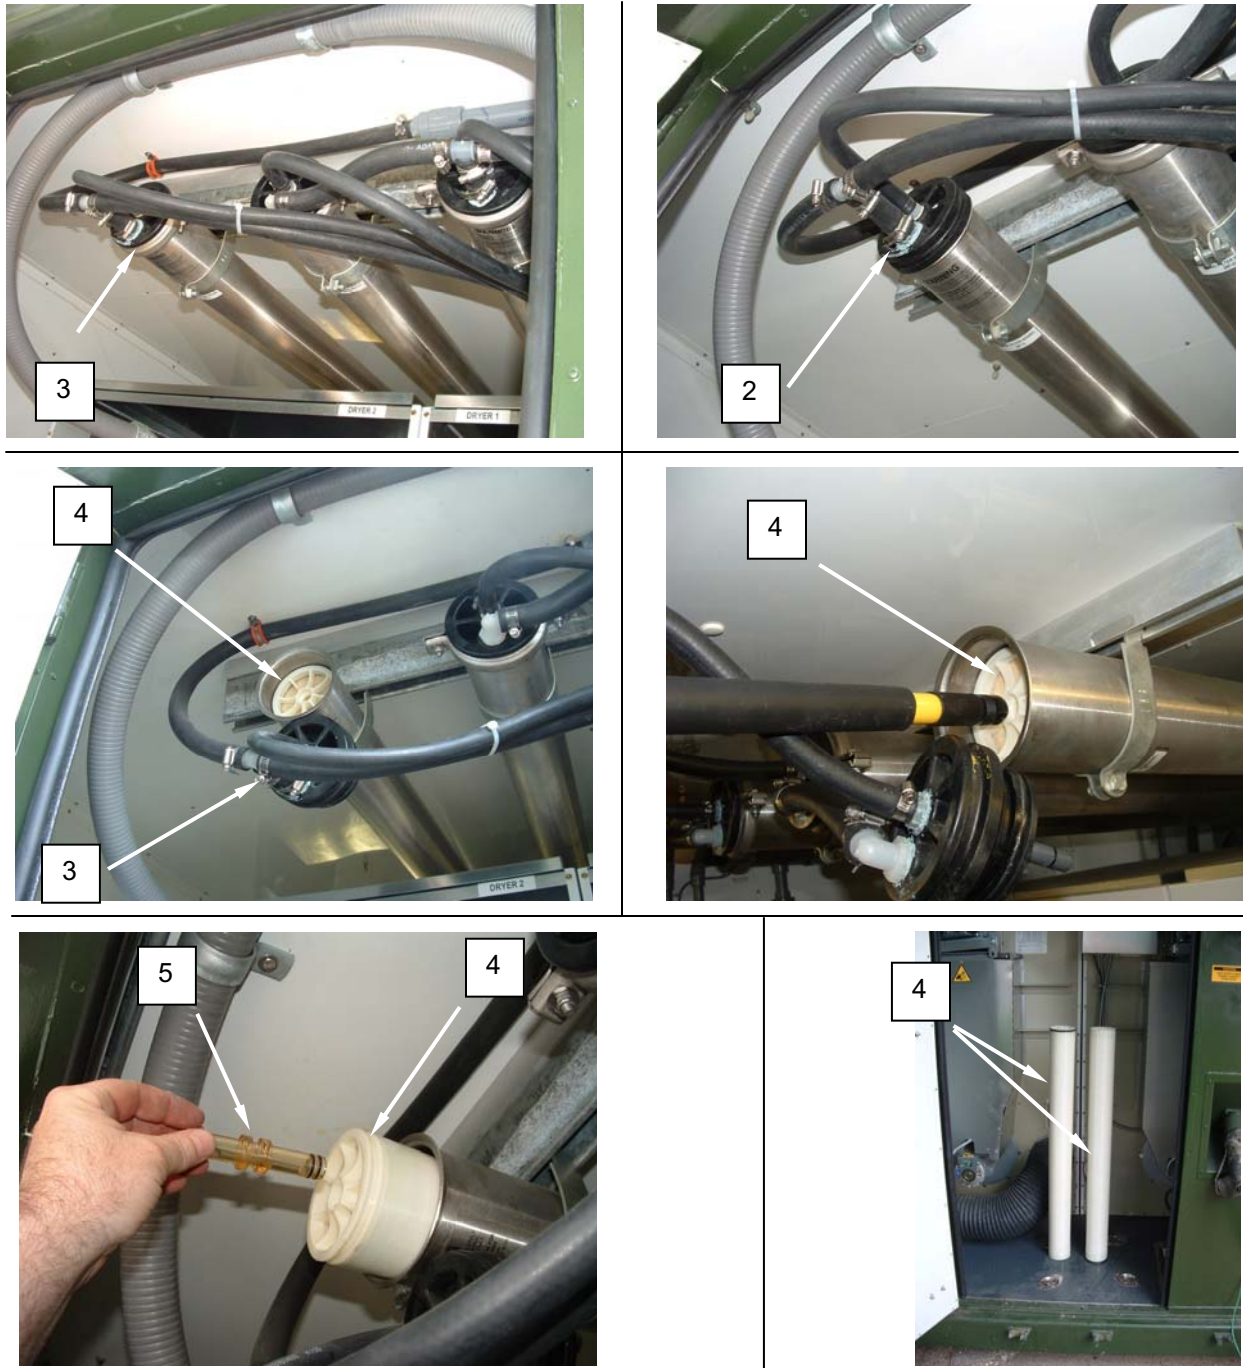

Figure 2. Replace Nanofilter Cartridges.
2. Remove bolt, washer, and nut retaining nanofilter end cap clamp (**Figure 2, Item 2**) and remove clamp.
3. Remove the end cap (**Figure 2, Item 3**).
5. Use the broom handle to carefully push the cartridges (**Figure 2, Item 4**) out from the canister.
6. Remove nanofilter cartridges (**Figure 2, Item 4**) and disassemble.
7. Connect nanofilter cartridges (**Figure 2, Item 4**) together with interface adapter (**Figure 2, Item 5**).
8. Install replacement nanofilter cartridges (**Figure 2, Item 4**).
9. Install the end cap (**Figure 2, Item 3**).
10. Install end cap clamp (**Figure 2, Item 2**) and retain with bolt, washer and nut.